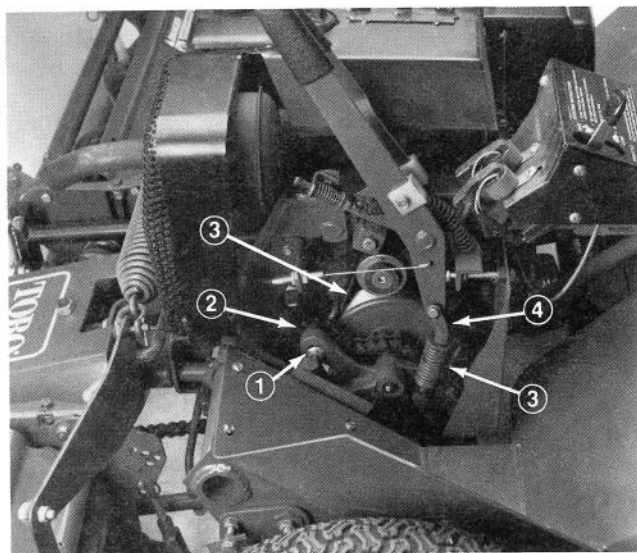

Figure 37
2. Loosen nut securing sprocket and belt guide (Fig. 37).
3. Slide sprocket down in slot until chain is snug (Fig. 37).
2. Loosen belt guides (Fig. 37).
3. Either cut belt or work it off end of engine and traction drive pulleys and slide it edgewise between traction and reel drive pulleys (Fig. 37).